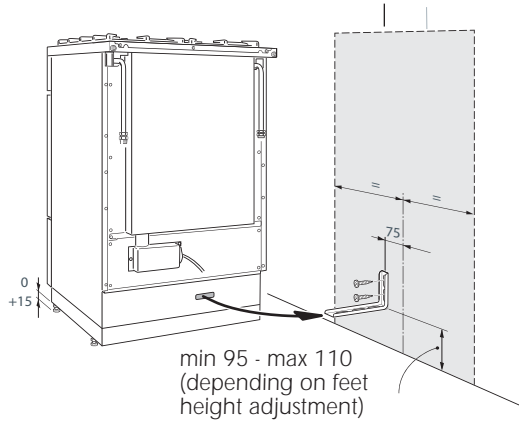

Figure 5a Fitting the anti-tilt bracket
1. After you have located where the cooker is to be positioned, mark on the wall the place where the two screws of the anti-tilt bracket have to be fitted. Please follow the indications given in Fig.5a.
4. Move the cooker to the wall and adjust the height of the anti-tilt bracket so that it can engage in the slot on the cooker's back, as shown in Fig. 5a.